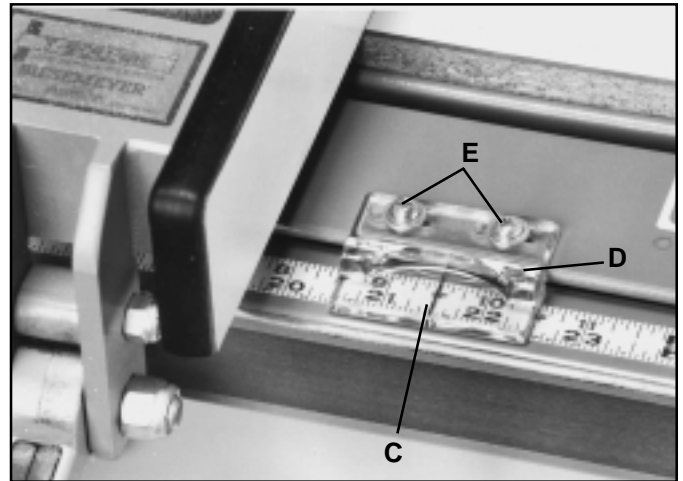

Fig. 28
2. The distance the fence is positioned away from the blade is indicated by the witness line (C) Fig. 28, located in cursor (D). If it is necessary to adjust the cursor (D), make a test cut with the fence locked in position. Measure the width of the finished cut and adjust the cursor (D) by loosening the two screws (E), adjusting the cursor (D) until the witness line (C) is aligned with the same marking on the scale as the finished cut. Then tighten the two screws (E).